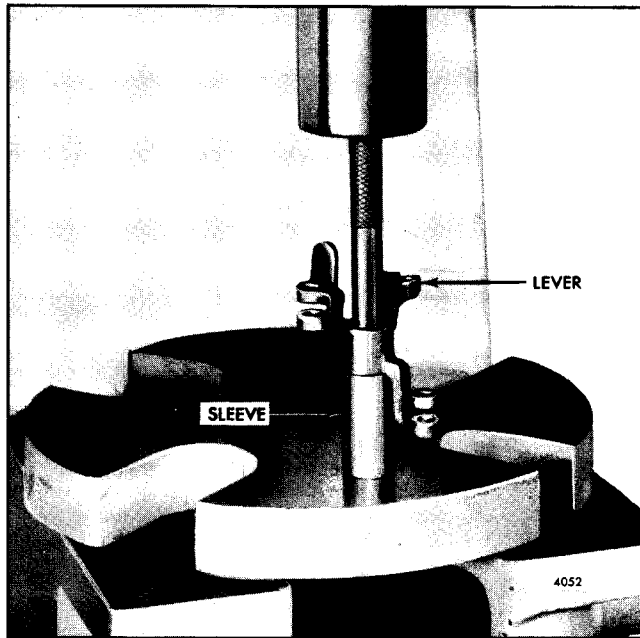

Fig. 8 - Removing Bearings from Control Link Lever using Tool J 8985
3. If the bearings require replacement, support the control link lever on a sleeve placed on the bed of an arbor press. Then, press the bearings out of the lever with tool J 8985 (Fig. 8).